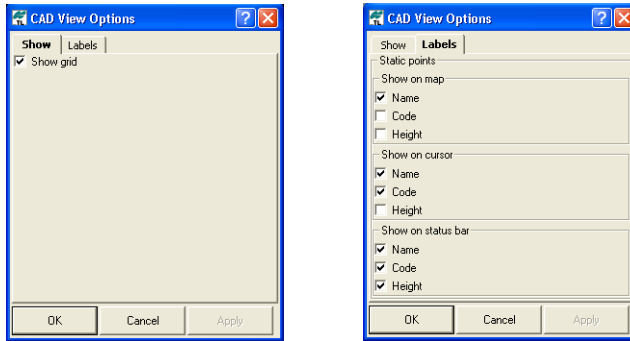

Figure 4-49. CAD View Options
2. To show grid, select the *Show* tab, and click the *Show grid box* (Figure 4-49 on page 4-39).
3. On the *Labels* tab, enable the desired settings. Click **Apply** to save the settings (Figure 4-49 on page 4-39).